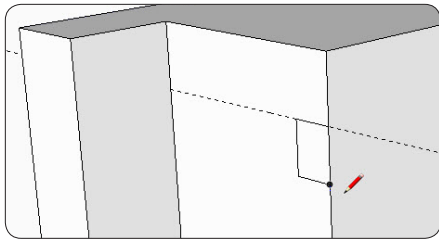

Figure 22. Using the Line Tool to draw the shape of the groove.
Step 19 Select the Line Tool. Use it to draw the boundary of the groove, which is $\frac{3}{8}$ in. deep and $\frac{1}{2}$ in. wide. Zoom in close to the model, if necessary, to better see what you are doing. As before, move the Line Tool and type the desired lengths. When you've finished, the end of the piece should look like the one shown in Figure 22.